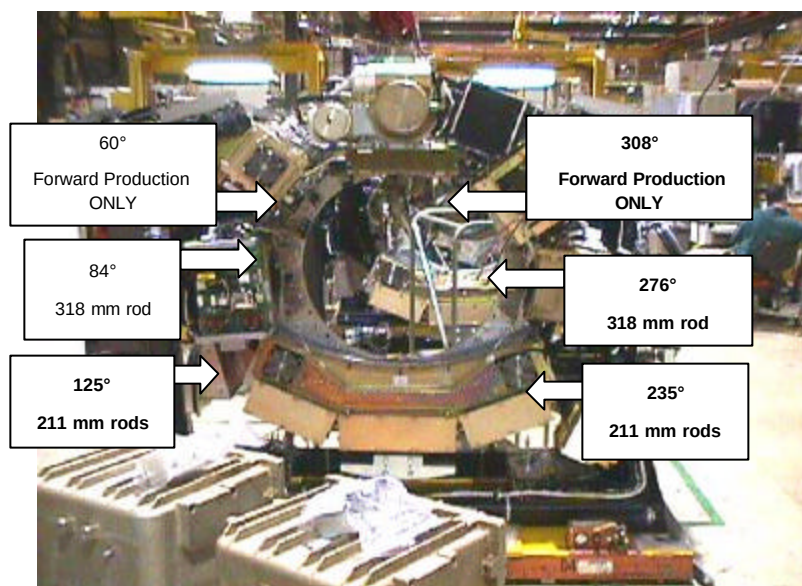

Figure 2
1. Remove the existing front and/or rear Balance Trim weights **ONLY** at the six (6) locations identified within this procedure. Refer to Figures 2 and 3. **DO NOT REMOVE WEIGHT FROM ANY OTHER LOCATIONS!**
2. Threaded rods must be installed at the following locations. Refer to Figures 2 and 3.